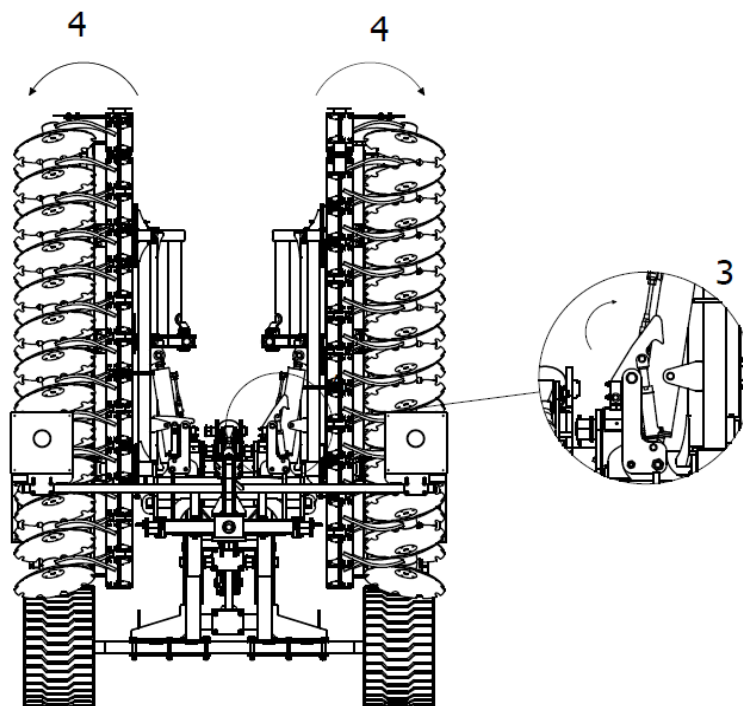

Figure 11 Machine opening sequence: 3- release the hook of the hydraulic wing lock mechanism 4- open the wings of the machine.
3. Then, having made sure that the hook of the hydraulic wing lock mechanism will allow the machine's wings to be unlocked, you can proceed to open them fully (fig. 11).